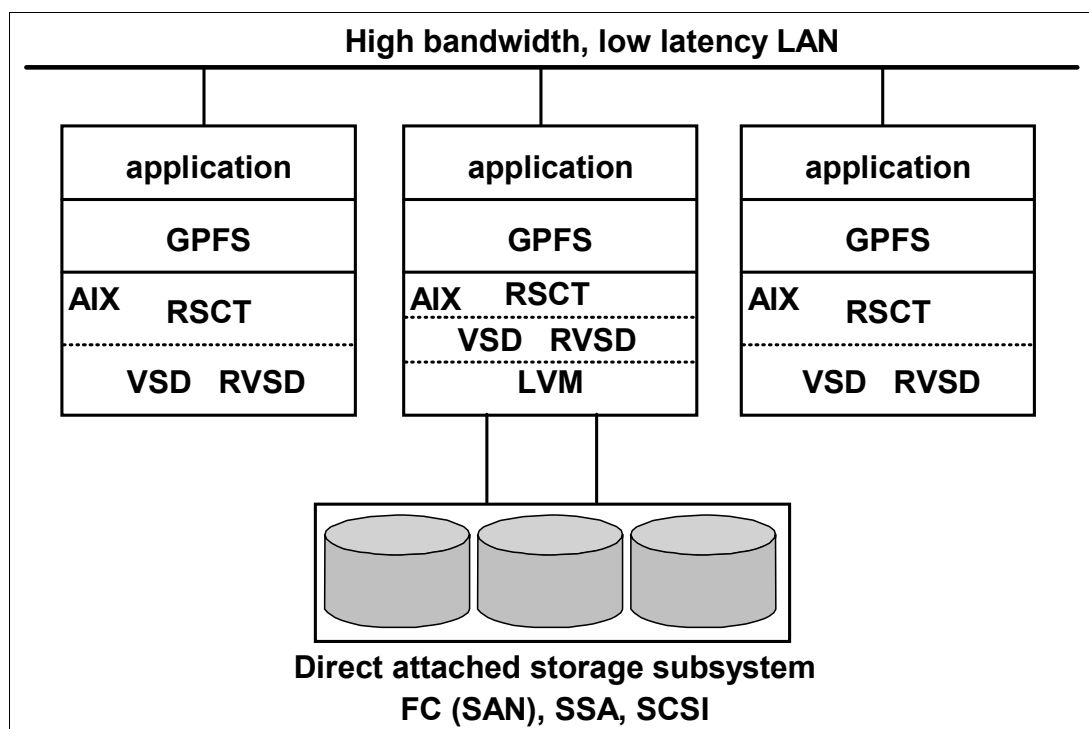

Figure 3-20 A GPFS cluster using the facilities of the VSD and the RVD components of RSCT
- Software simulation of a SAN by the use of the IBM Virtual Shared Disk component of RSCT. See Figure 3-20. Disks attached in this manner are formatted into Virtual Shared Disks for use by GPFS via the `mmcrvds` command.